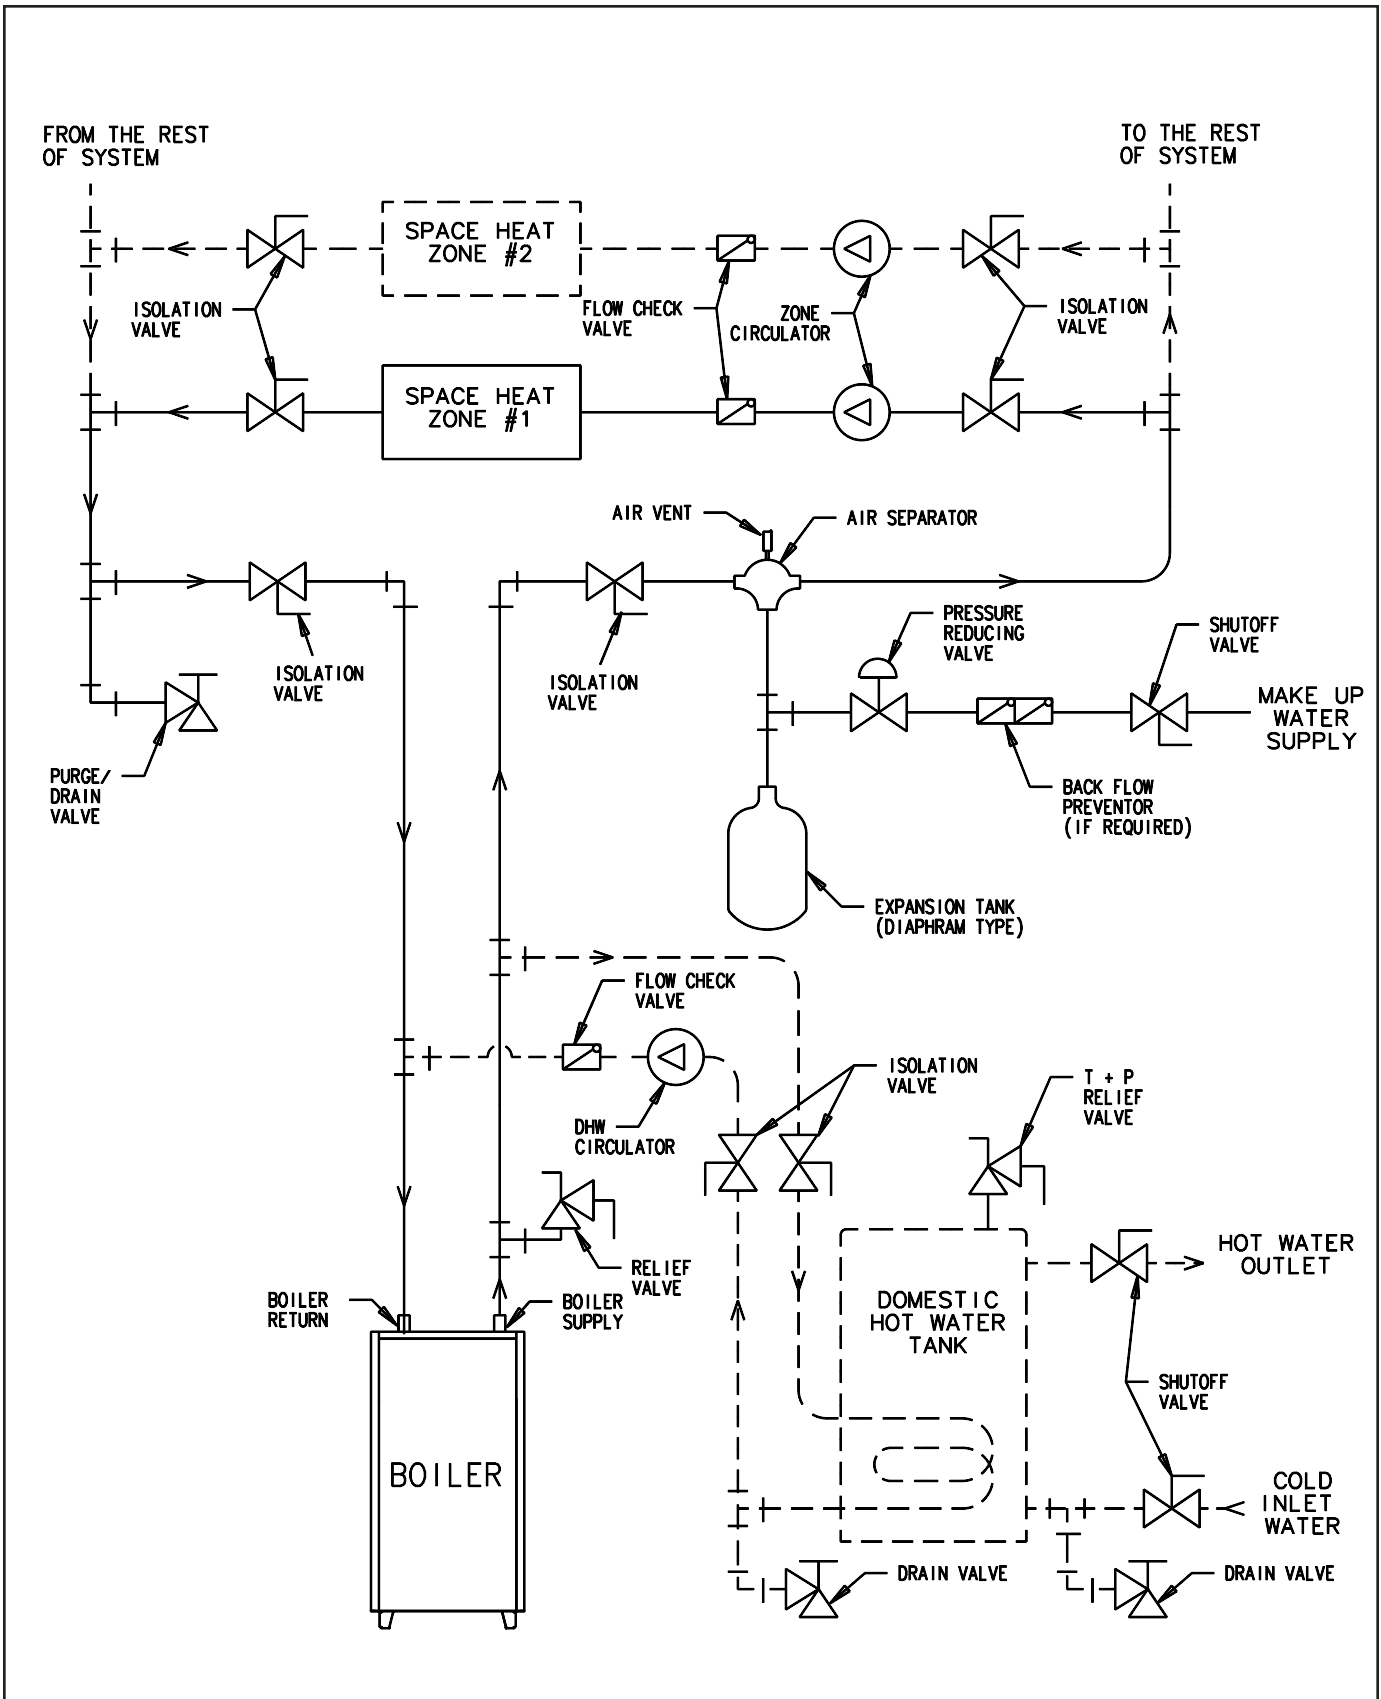

Figure 11. Zoning with circulators, optional indirect DHW tank
- For zoning and piping arrangement with indirect water heater, see figure 11 and 12.